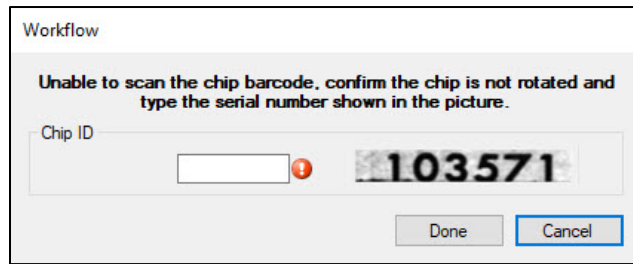

Figure 77. Input chip ID.
- If the chip ID is readable by eye (Figure 77), but the software is unable to read it, manually enter the ID into the "Chip ID" field.
- If the scan completes, but there is no chip ID picture shown, as in Figure 77, that indicates the chip is likely in the incorrect orientation and needs to be rotated and resealed.